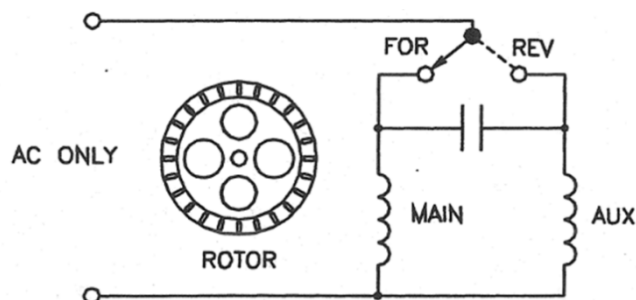

Figure 14 - Arrangement for reversing a permanent capacitor motor.
40. The direction rotation of a permanent capacitor motor can be reversed by reversing the connections to either the run or the auxiliary winding, but not both. Another method of reversing a permanent capacitor motor is to change the phase angle in one winding relative to the other by connecting a permanent capacitor as shown in Figure 14. This method is commonly used in motors associated with the regulation of air flow in air conditioning systems.